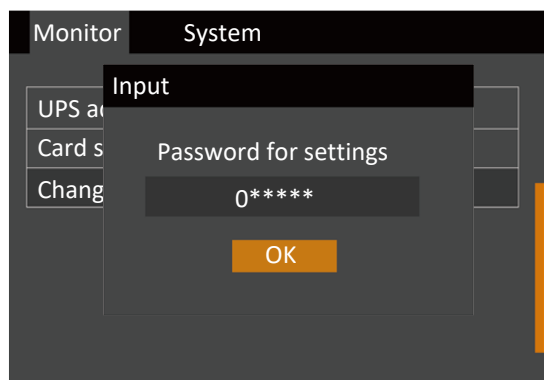

Figure 5-24 Password for Settings
3. Press the key, the interface shown in Figure 5-24 is displayed.